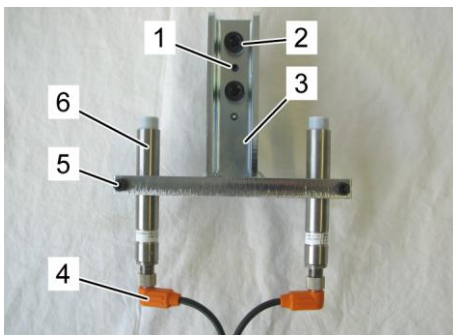

Fig.104: Sensor bracket with sensors
1. Disconnect the sensor cables (Fig.104/4) in the compartment where the inspection has to be made.
2. Leave sensors (Fig.104/6) in their position and do not open the clamping bolts (Fig.104/5).
3. Remove the fastening bolts (Fig.104/2) of the sensor brackets.
4. Use on small brackets a large screwdriver and place it between the A-frame and the sensor bracket to separate the sensor brackets from the alignment pins (Fig.104/1). On larger brackets please use the threaded hole, insert a threaded bolt and press the bracket from the A-frame screwing the bolt down.
7. Place the sensor bracket (Fig.104/3) onto the alignment pins (Fig.104/1).
8. Insert the fastening bolts (Fig.104/2) with new Nord-Lock® discs and tighten them with the correct torque moment (⇒ see chapter 8.4).